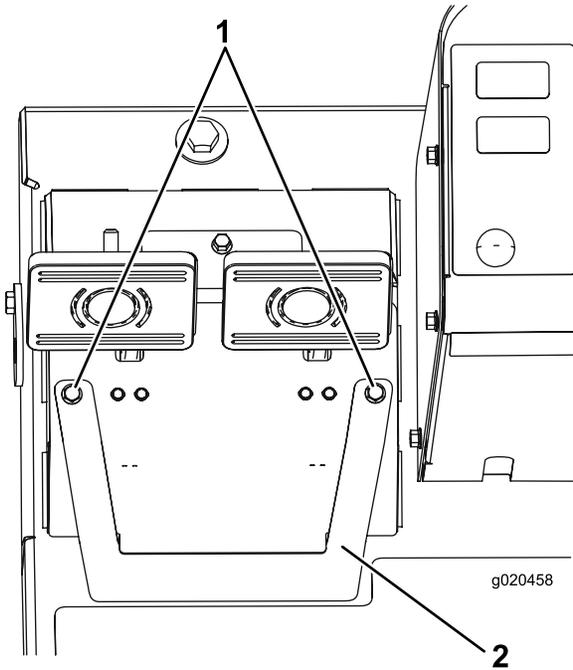

Figure 91
- A. Loosen the 2 mounting screws and remove the brake-adjustment cover (Figure 91).